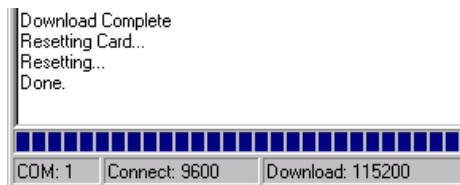

Figure 29: Upgrade Process Complete
7. The receiver should finish downloading and reset. The process is complete when "Done." is displayed in the main display area, see *Figure 29*.